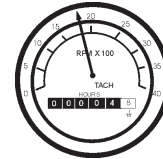

Figure 49. Engine Tachometer Gauge
13. The **tachometer gauge** (Figure 49) will indicate the speed of the engine when the generator is operating. Under normal operating conditions this speed is approximately 1800 RPM's.